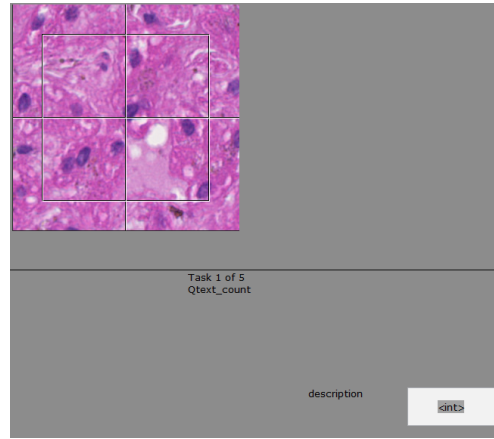

Figure 2
- **Description and purpose:** Count the number of cells that appear to accommodate the description (*Figure 2*).